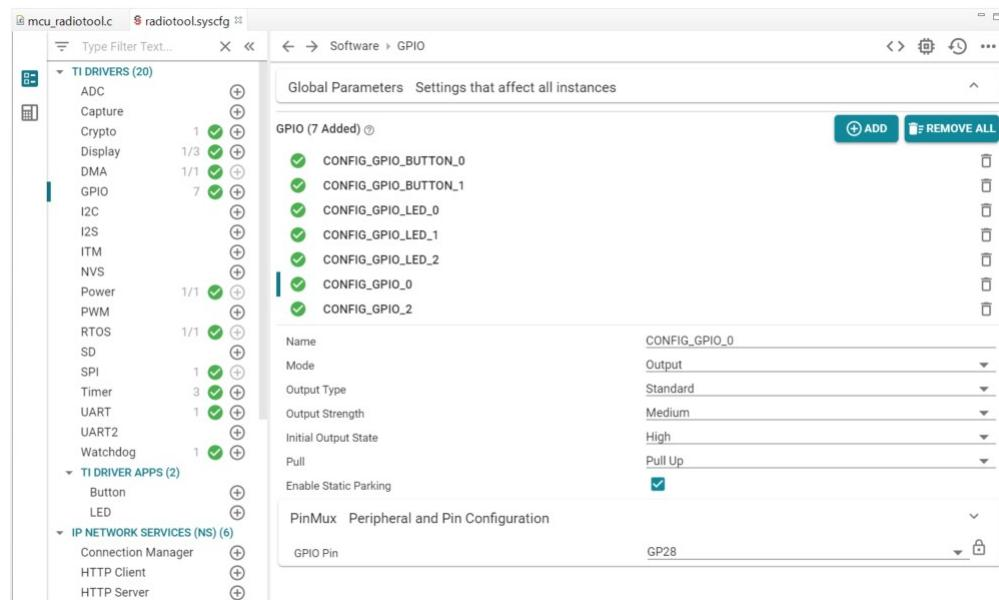

Figure 2-4. sysconfig - Configure Board
3. Select the GPIO module in the Software view and set up GPIO_CONFIG_0 as shown in Figure 2-4.